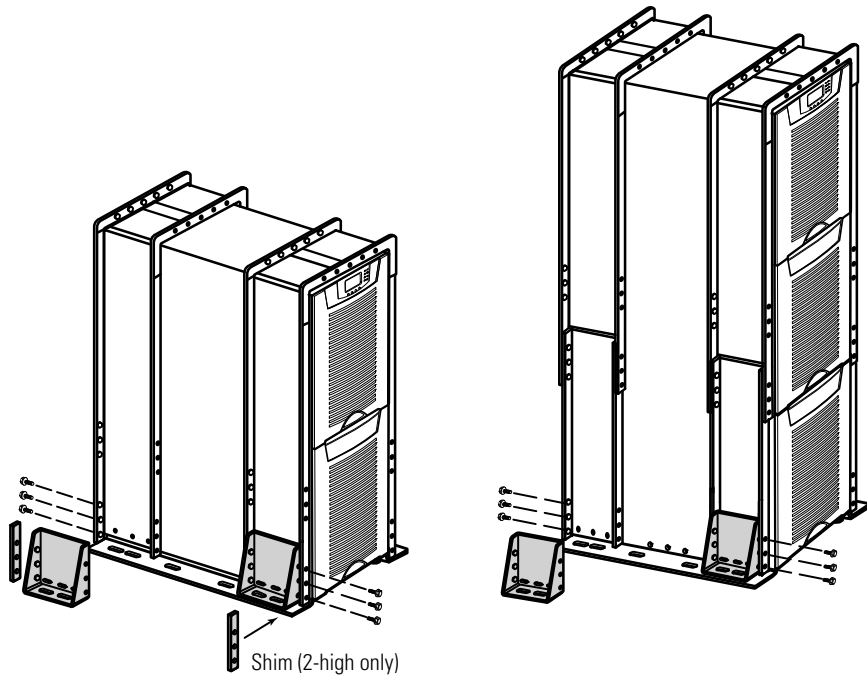

Figure 5. Installing Base Supports
13. Place the base supports inside the rails of the two hold-down brackets (see Figure 5). Repeat for the other side.